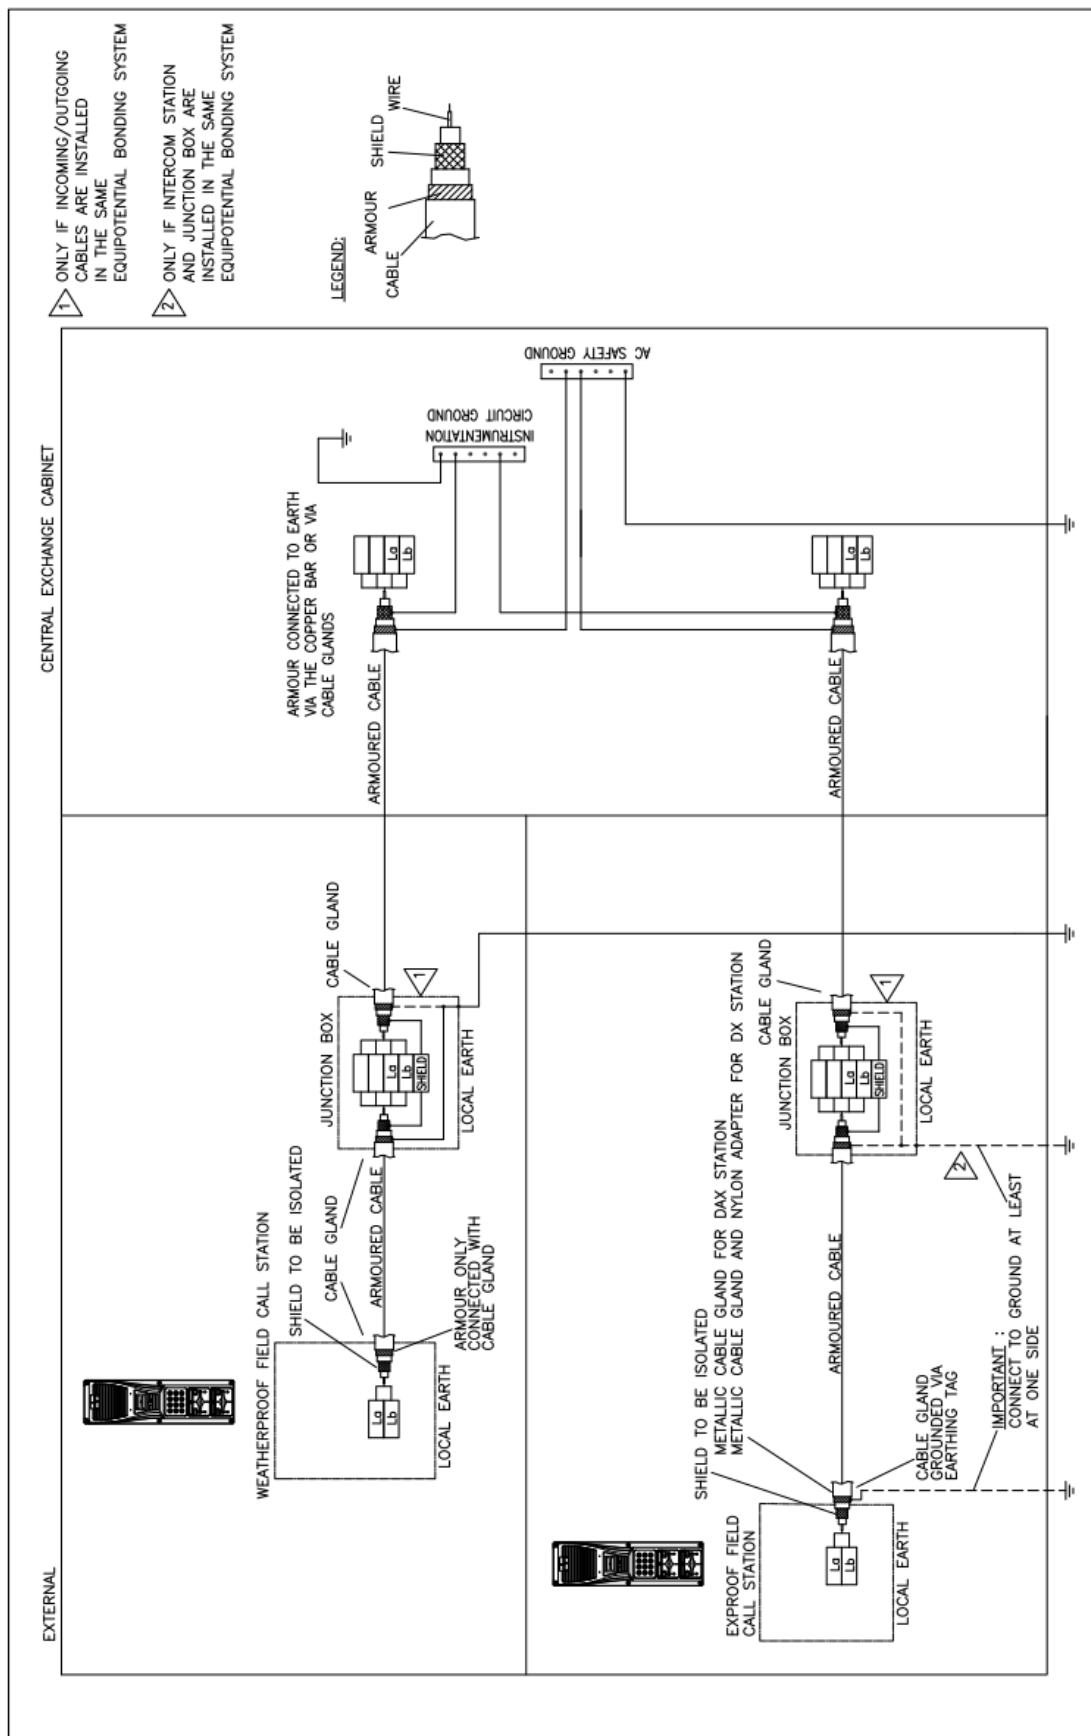

Fig. 6-1: Cabling example of intercom stations
- Intercom stations for outdoor and Ex areas connected via armored and additionally shielded cables (see Fig. 6-1, page 17).